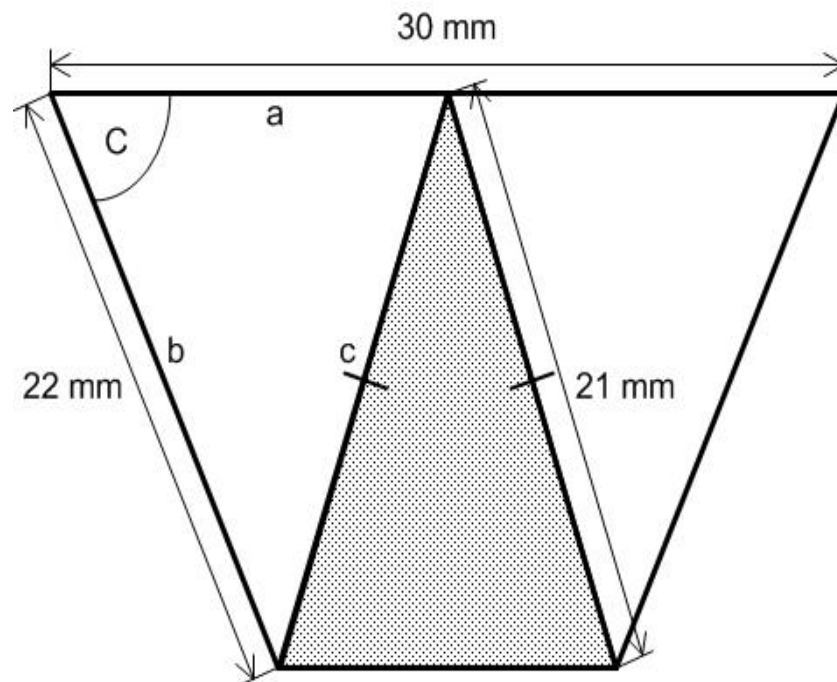

Fig.7
- (d) **Fig.7** shows a geometric design that will be engraved on the tablet stand as a company logo.